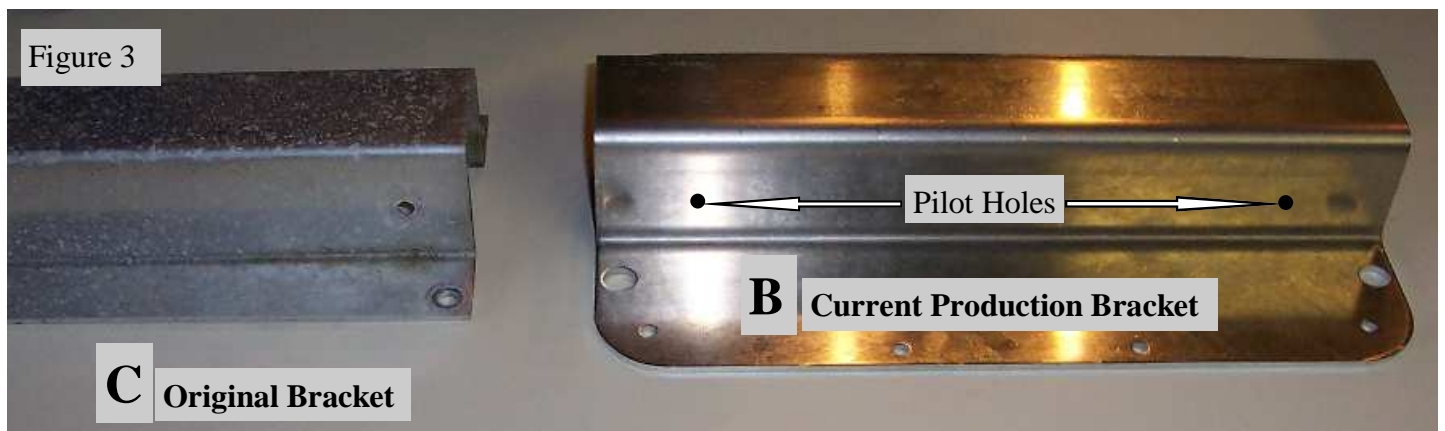

Figure 3
For customers who purchased a 3 element antenna **before March 2003** your element housing brackets may have been of a different design (**Figure 3-C**). If you have the original style element housing bracket you will need to install a new style element housing bracket on your boom (**Figure 3**) before you can mount the new 40m - 30m driven element housing unit.
- Drill four 5/16” holes, two in from each side, through the bracket and the boom using the pre-drilled pilot holes in the bracket as a guide (**Figure 3**). You will **NOT** be using the original holes in the boom.